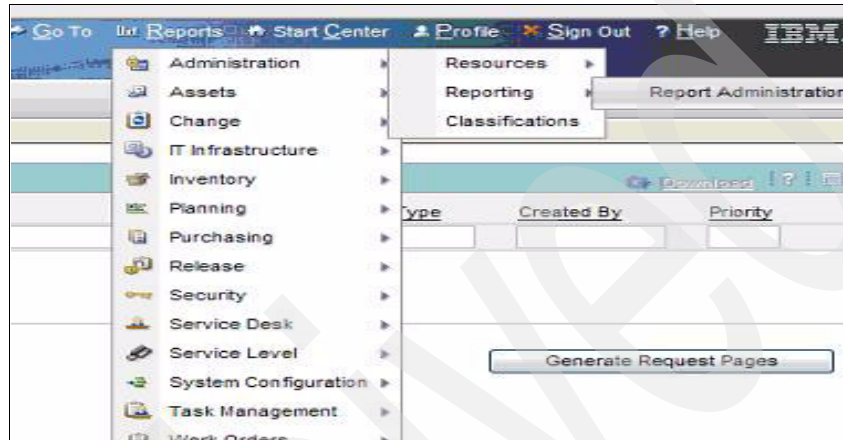

Figure 8-1 Report Administration menu
1. Start the Report Administration application from the Start Center by selecting **Go To → Administration → Reporting → Report Administration** as shown Figure 8-1.